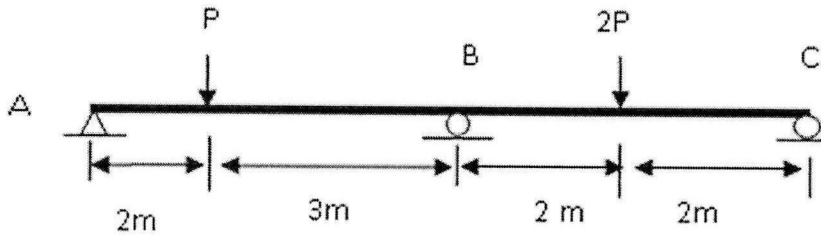

FIGURE Q1(b)
- Q1** (a) List **TWO (2)** advantages and disadvantages of indeterminate structure. (4 marks)
- (b) A continuous beam in **Figure Q1(b)** is subjected to a point load  $P$  at 2 m from A and 2 m from C. Using force method: